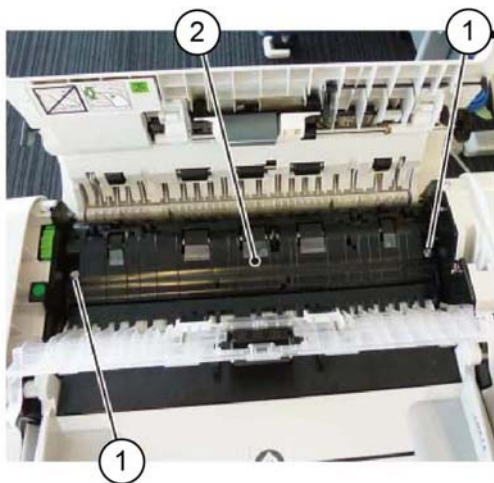

Figure 1 Invert chute assembly removal
3. Remove the invert chute assembly, Figure 1:
- a. Remove two screws (1).
- b. Remove the invert chute assembly (2).